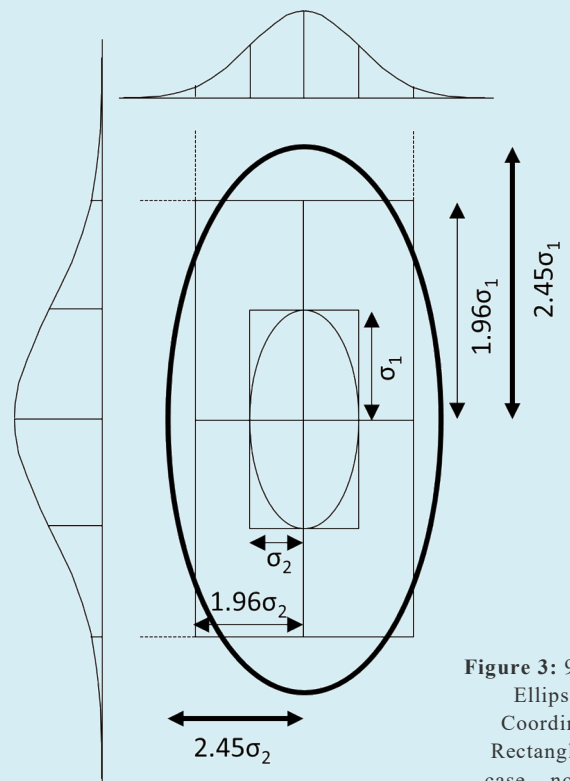

Figure 3: 95% Error Ellipse vs. 95% Coordinate Error Rectangle (simple case – no rotation)
1.8. Second, error ellipses are also scaled up from "standard" size to 95% confidence using a factor of at least 2.45 (rounded). That's larger than the 1.96 we usually associate with 95% confidence. It's larger because an error ellipse is two-dimensional, and it must be magnified by 2.45 in order to enclose 95% of the volume under a normal distribution surface. Compare that to one-dimensional variables (a single coordinate, distance or angle), where a 1.96 multiplier encloses 95% of the area under a normal distribution curve. Figure 3 shows how that puts a lot of the 95% ellipse well outside the 95% coordinate error rectangle, which seems strange, but it is what it is. Complicating things further, some apps use even larger 95% multipliers, because they essentially assume that the user-estimated standard errors (for weighting) are just an unreliable, small set of "sample" standard errors, rather than reliable "population" standard errors. The larger multipliers depend on the degrees of freedom (number of redundant measurements) in the